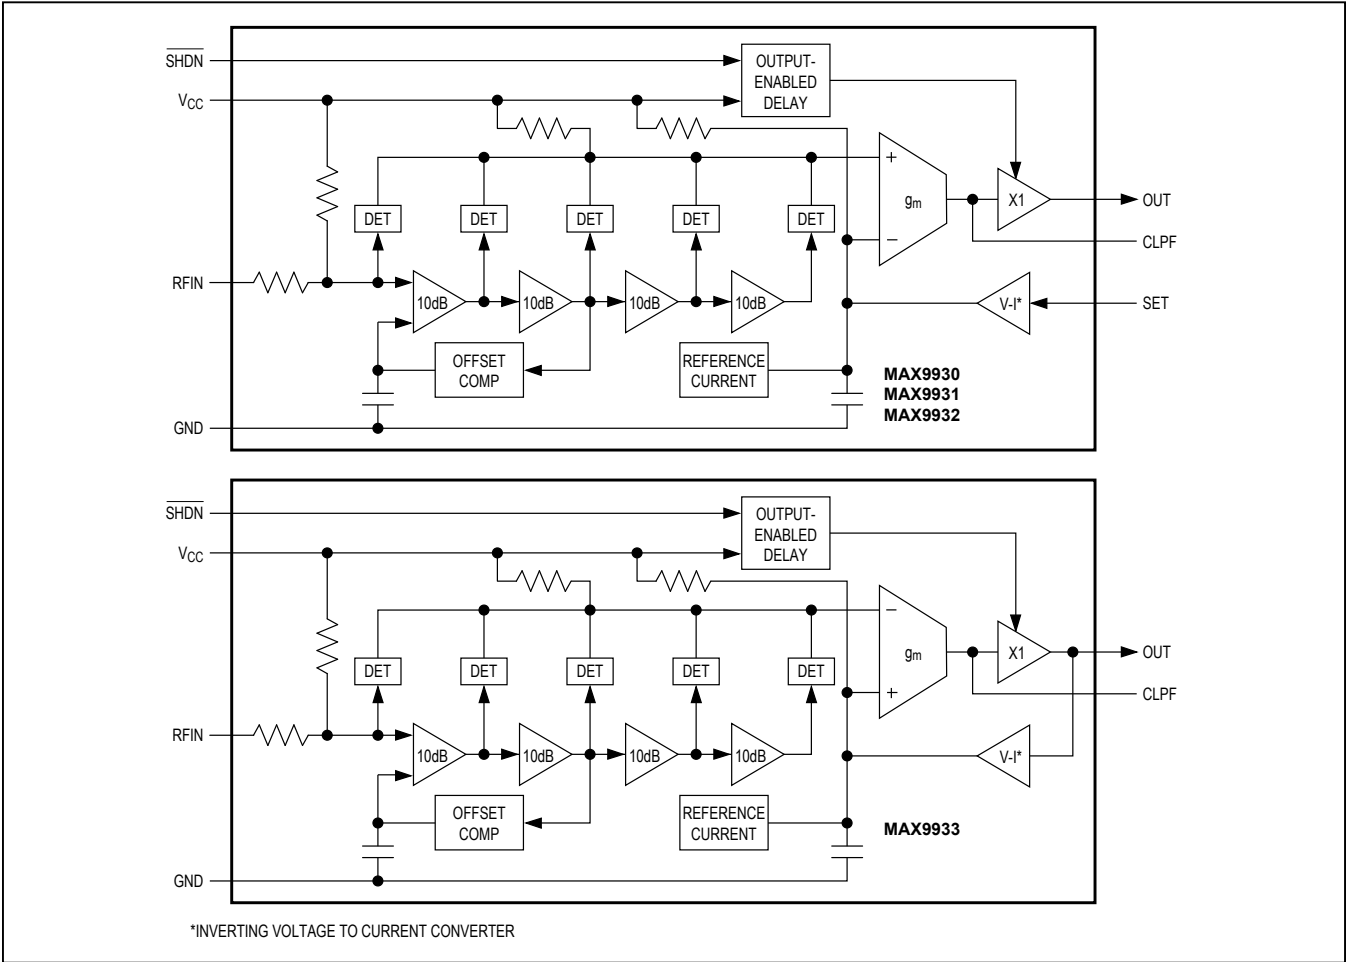

Figure 1. Functional Diagram
**Note 3:** Set-point slew rate is the rate at which the reference level voltage, applied to the inverting input of the  $g_m$  stage, responds to a voltage step at the SET pin (see Figure 1).
The MAX9930–MAX9933 family of logarithmic amplifiers (log amps) comprises four main amplifier/limiter stages each with a small-signal gain of 10dB. The output stage of each amplifier is applied to a full-wave rectifier (detector). A detector stage also precedes the first gain stage. In total, five detectors, each separated by 10dB, comprise the log amp strip. Figure 1 shows the functional diagram of the log amps.